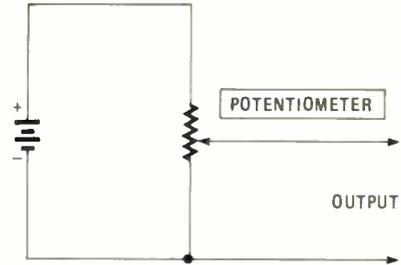

Fig. 19—Only a potentiometer is needed for a simple voltage divider, also other resistors can also be used in the circuit.
29. (less) If the source voltage and resistor values are known, the output voltage can be computed as the circuit in Fig. 19 shows. First, the total circuit resistance is calculated. Then the circuit current is found with Ohm's law. Finally, the output voltage across R2 is computed.
Because of its unique configuration, a pot can be used as a variable voltage divider as Fig. 19 shows. The source voltage is applied across the pot and a portion is tapped off by the arm.